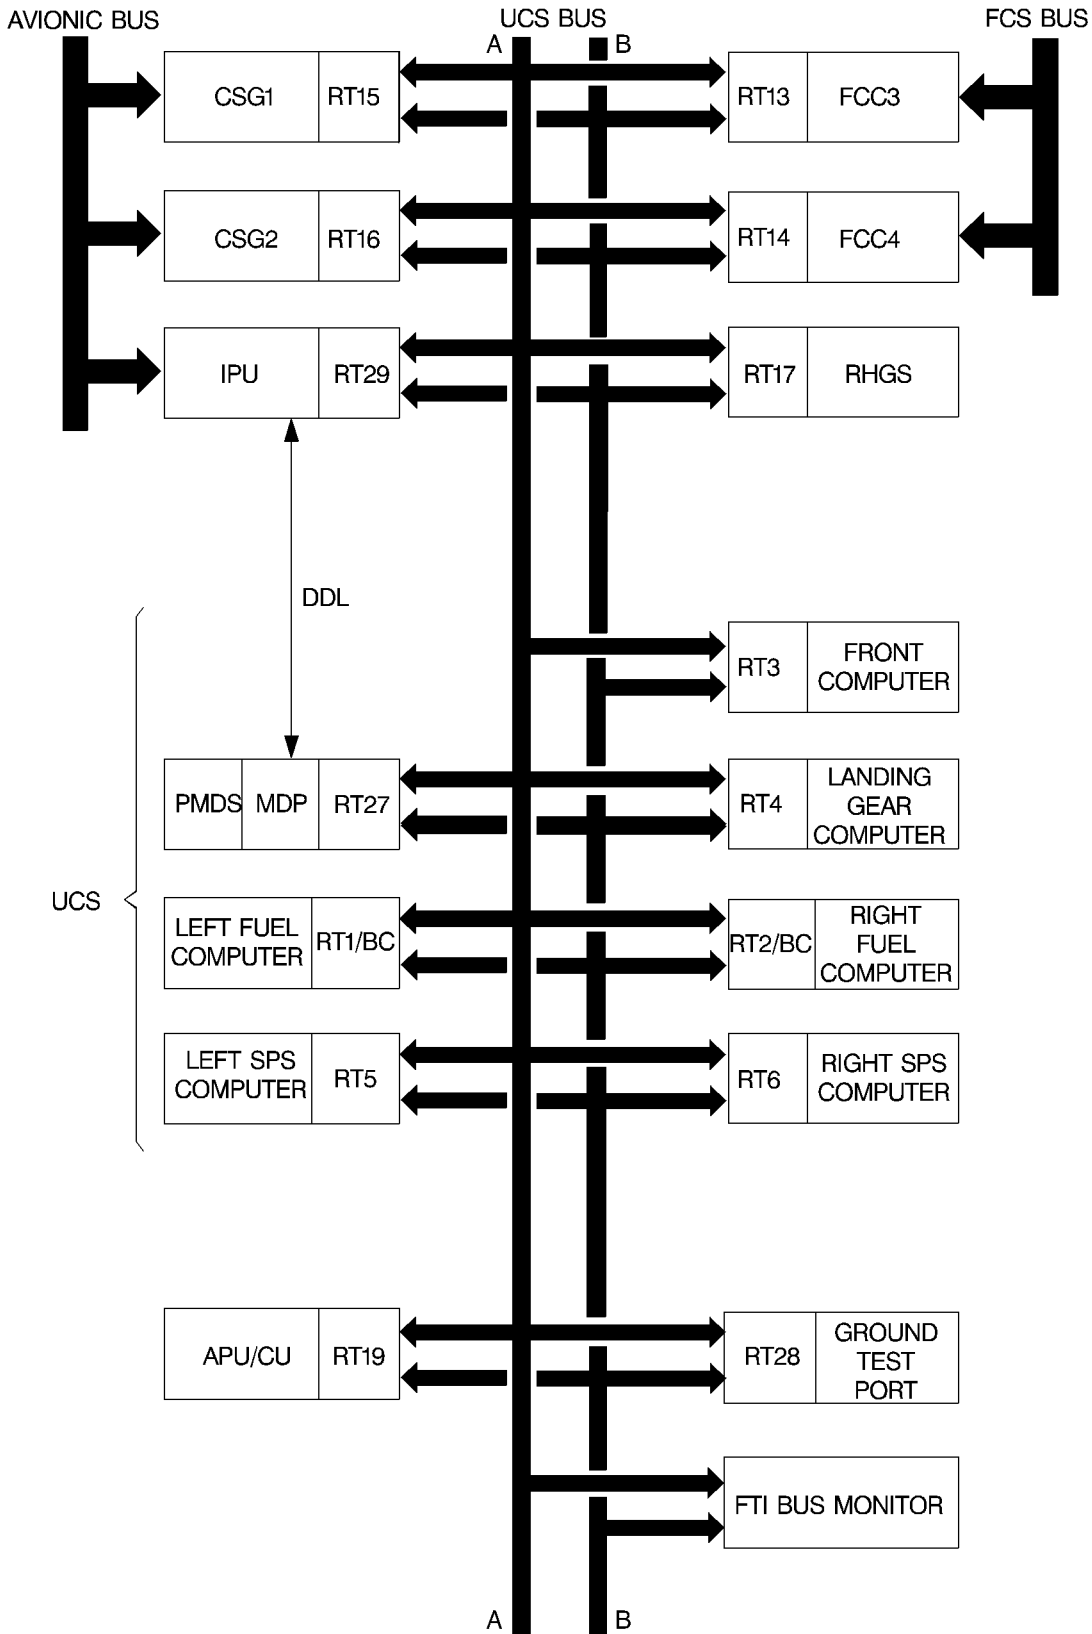

Figure 1.29 - UCS Architecture
The seven Utilities Control System (UCS) Computers are interfaced between each other and the equipment connected to the Data Bus by a Dual Standby redundant Serial Data Bus. The equipment are connected by means of Remote Terminals (RT) to the data bus, see Figure 1.29.